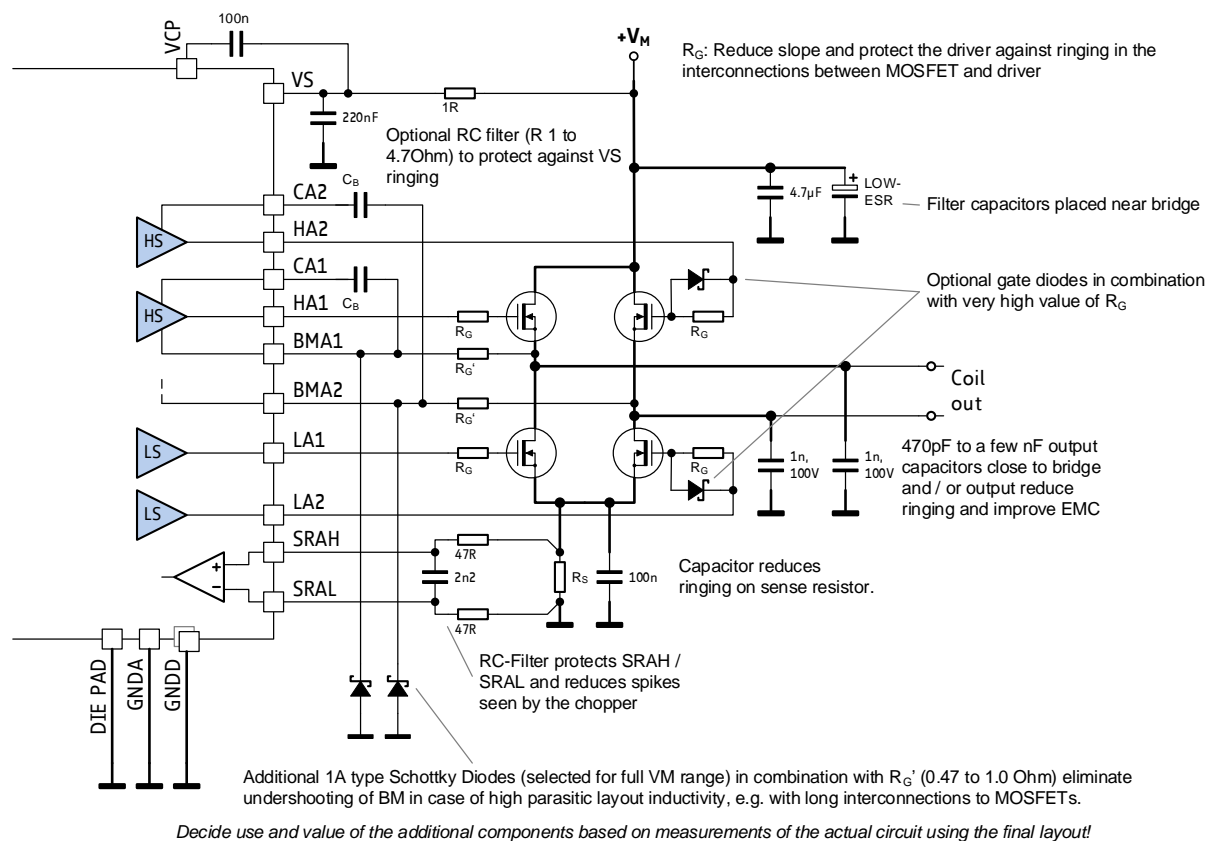
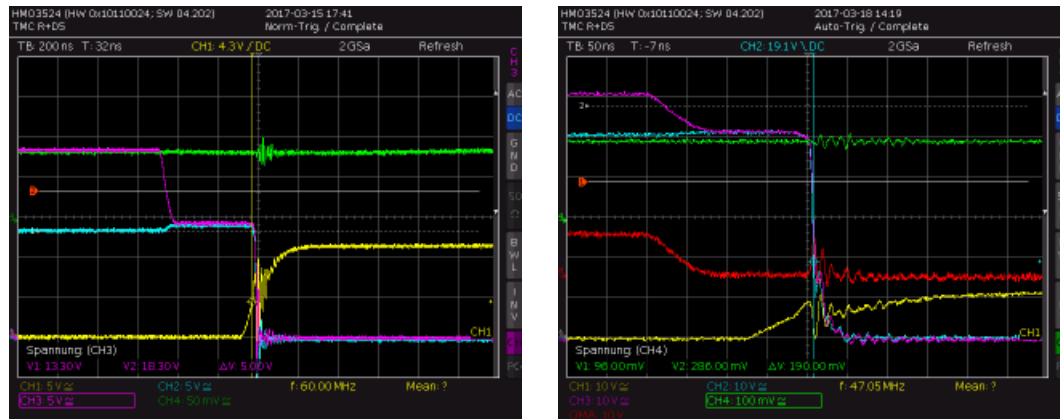
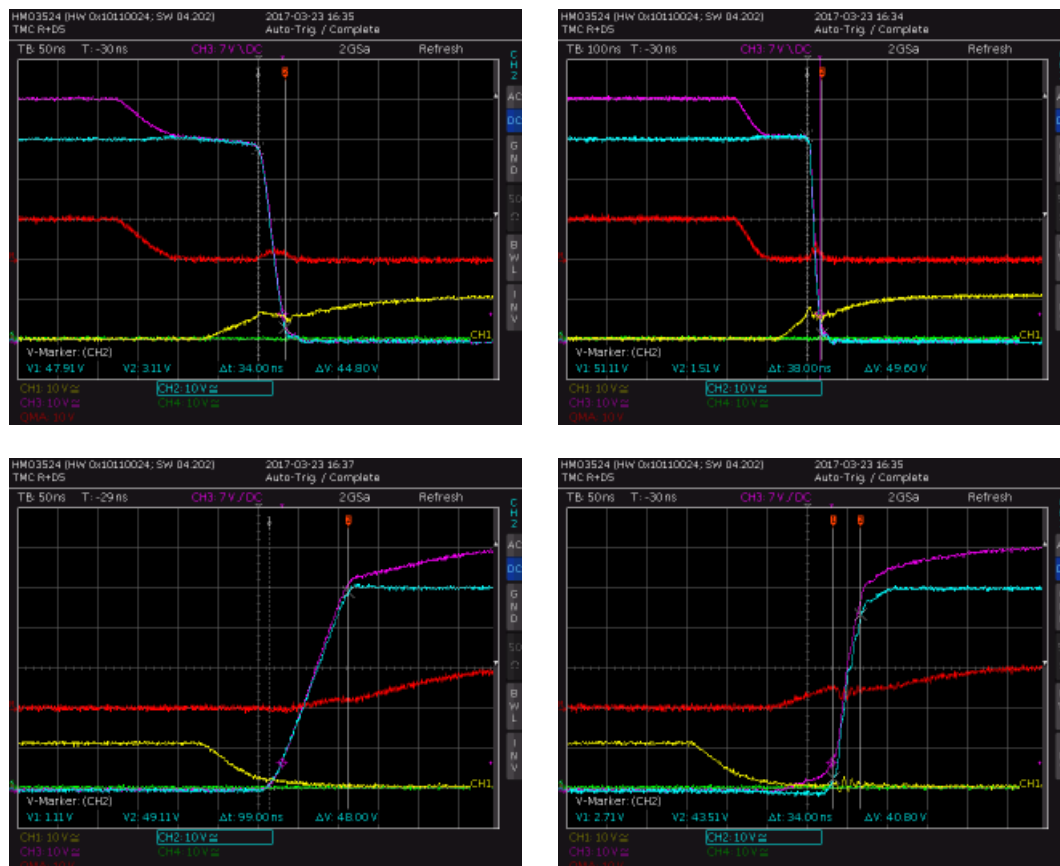
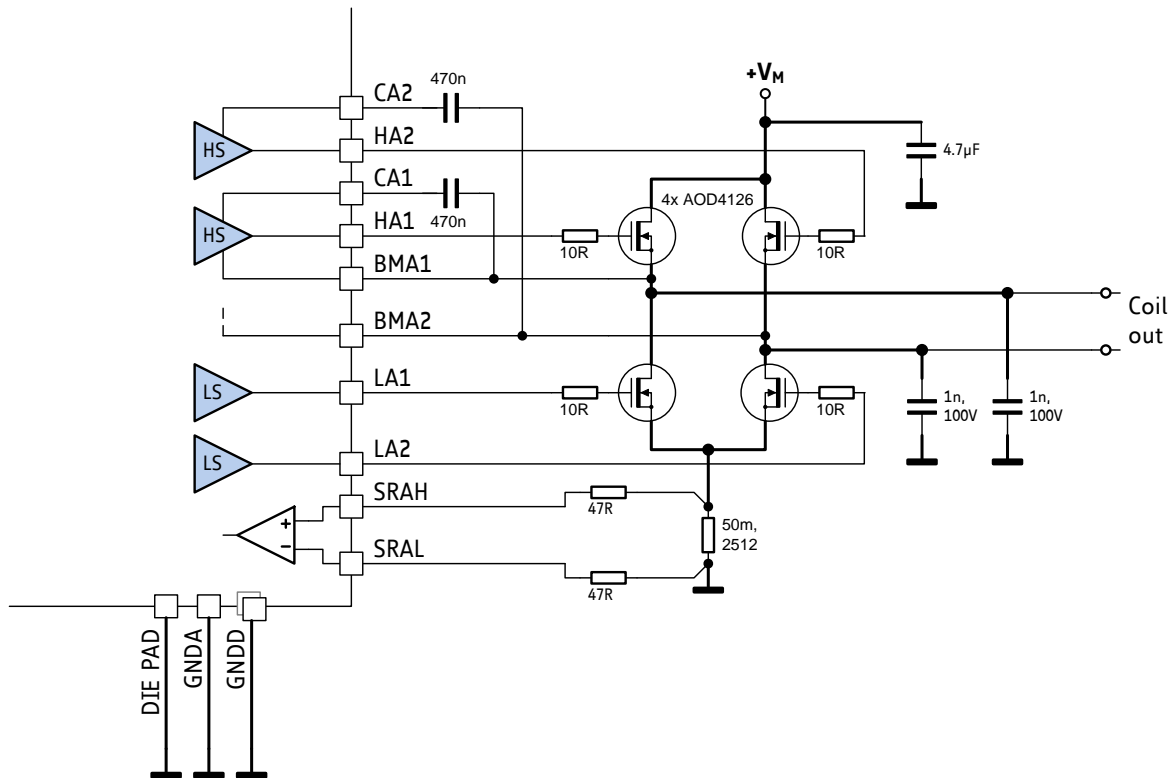

Figure 3.5 Bridge protection options for power routing inductivity
Figure 3.6 Ringing of output (blue) and Gate voltages (Yellow, Purple) with untuned bridge
Figure 3.7 Switching event with optimized components (without / after bulk diode conduction)
Figure 3.8 Example for bridge with tuned components (see scope shots)
In addition to filtering capacity near to the power bridges, provide sufficient capacity on VS located close to the VS pin and the connection of the VCP capacitor, to ensure that high-frequency ripple, caused by the switching edges of the power bridge transistors are kept well below 0.5V. An RC filter may be required (see Figure 3.5).
Stray inductance in power routing will cause ringing whenever the opposite MOSFET is in diode conduction prior to switching on a low-side or high-side MOSFET. Diode conduction occurs during break-before make time while the load current is inverse to the following bridge polarity. The MOSFET bulk diode has a certain, type specific reverse recovery time and charge. This time typically is in the range of a few 10ns. During reverse recovery time, the bulk diode will cause high current flow across the bridge. This current is taken from the power supply filter capacitors (see thick lines Figure 3.5). Once the diode opens, parasitic inductance tries to keep the current flowing. A high, fast slope results and leads to ringing in parasitic inductivities (see Figure 3.6) in the current path. This may lead to bridge voltage undershooting the GND level as well as short pulses on VS and all MOSFET connections. It must be ensured, that the driver IC does not see spikes on its BM pins undershooting GND more than 5V. Severe VS ripple might overload the charge-pump circuitry. Measure the voltage directly at the driver pins to driver GND. The amount of undershooting depends on energy stored in parasitic inductivities from low side drain to low side source and via the sense resistor RS to GND.
When using relatively small MOSFETs, a soft slope control requires a high gate series resistance. This endangers safe MOSFET switch off. Add additional diodes to ensure safe MOSFET off conditions in this case (shown for right MOSFET pair in Figure 3.5).
Figure 3.7 shows performance of the basic circuit after adapting switching slope and adding 1nF bridge output capacitors.
- Add optional gate resistors close to MOSFET gate and output capacitors to ensure clean switching and reliable operation by minimizing ringing. Figure 3.5 shows the options plus some variations.
The MOSFETs have a low gate capacitance and offer roughly 50ns slope time at the lowest driver strength setting. At lowest driver strength setting, switching quality is best (Figure 3.6), but still shows a lot of ringing. Low side gate resistors have been added to slightly increase switching slope time following high-side bulk diode conduction by increasing the effect of Gate-Drain (Miller) charge. High side gate resistors have been added for symmetry. Tests showed, that 1nF output capacitors dramatically reduce ringing of the power bridge following bulk diode conduction (Figure 3.7). Figure 3.8 shows the actual components and values after optimization.